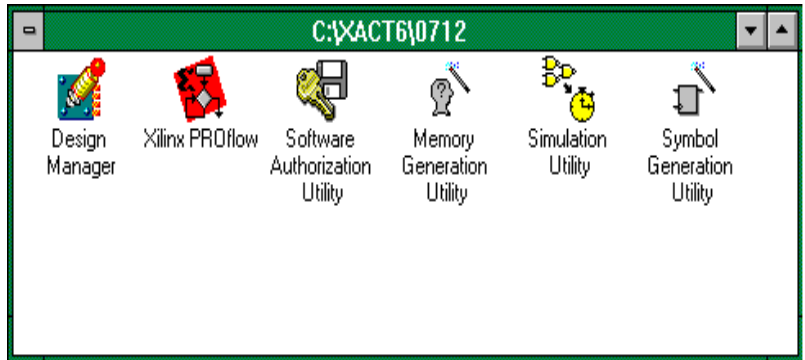

Figure 2-1 Design Manager Icon
3. Double click the Design Manager icon (see Figure 2-1).